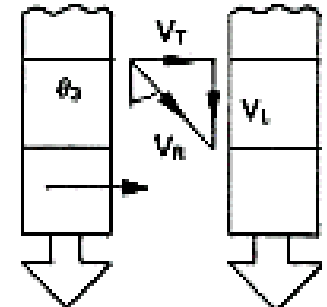

Fig. 4 Principle of Fluid Coupling
❖ Principle of Operation: (Fig.4)
- To understand the principle of the hydrokinetic coupling, circulation of a small fluid particle between one set of impeller and turbine vanes at various points A, B, C and D is considered as shown in Fig. 4.